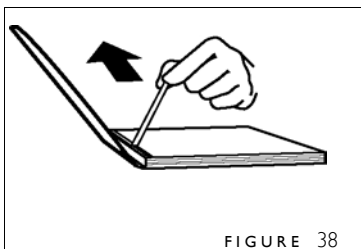

FIGURE 38
5. Flip the book over. Open the back cover and remove the remaining release paper (figure 38).